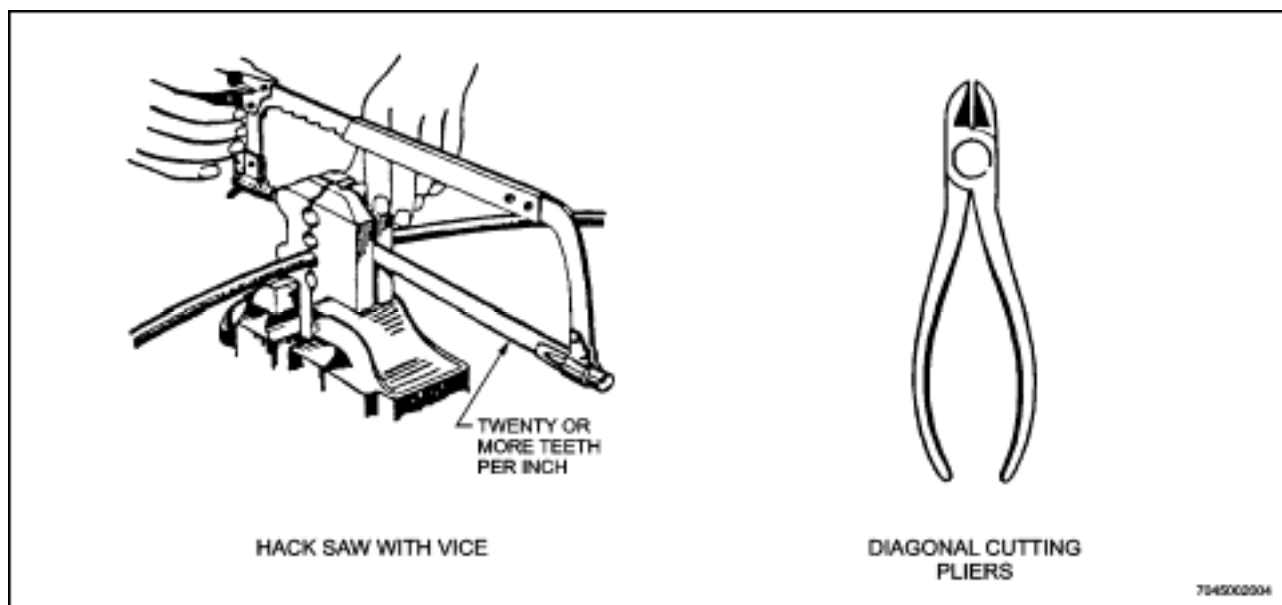

Figure 3-2 Wire Cutting Tools
3. To cut heavy gauge copper wires or cables, use a fine tooth hacksaw. A fine tooth hacksaw has 20 or more teeth per inch. See Figure 3-2 Wire Cutting Tools for use of hack saw and saw vice which protects heavy wire during cutting. Heavy or light copper wires can also be cut with bench shears.
4. To cut a few light gauge copper wires, use diagonal pliers as shown in Figure 3-2. Do not attempt to cut wires larger than AWG-8 with diagonal pliers.